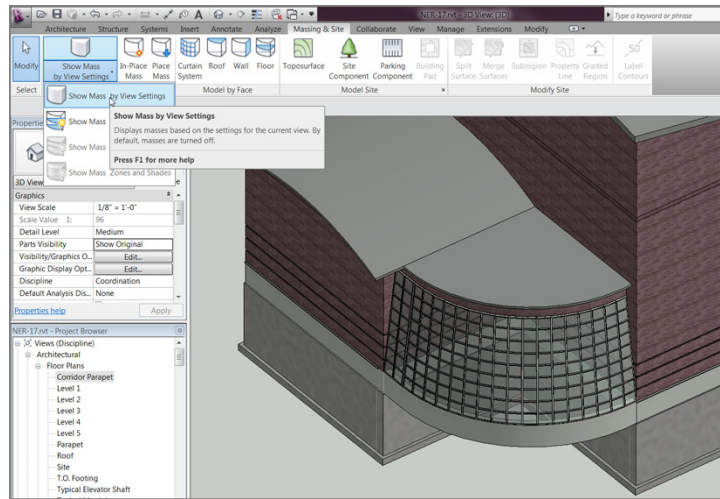

FIGURE 16.55: The new funky atrium
14. Click Show Mass By View Settings. Your new atrium should look like Figure 16.55.